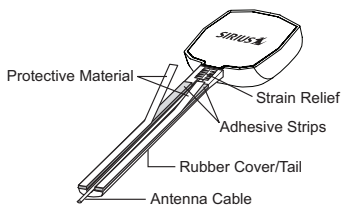
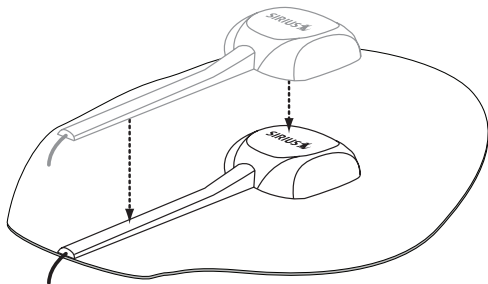

Figure 7
Figure 8
2. Attach the rubber cover/tail to the antenna, as shown in Figure 7, and press the antenna cable into the rubber cover/tail. The rubber cover/tail will help to position the antenna the correct distance from the edge of the roof or trunk lid.
4. Peel the protective material from the adhesive strips (Figure 7) and press the rubber cover/tail firmly into place on the vehicle (Figure 8).